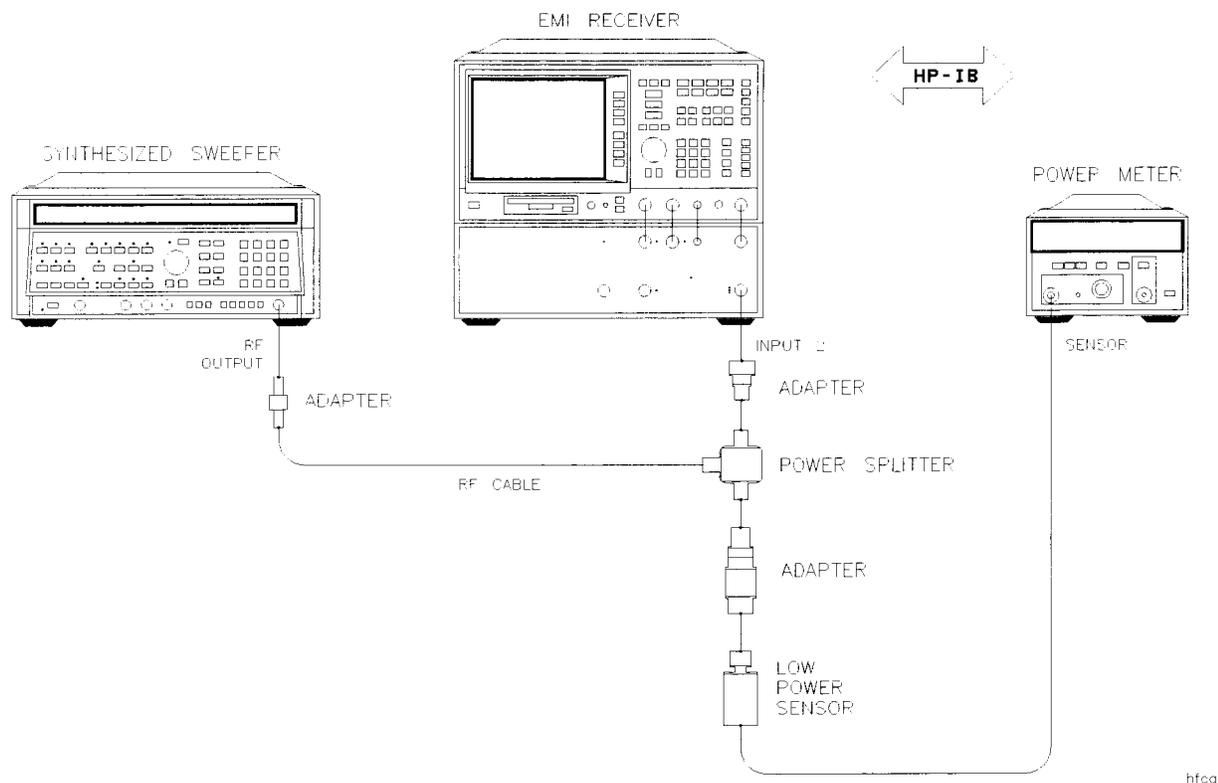

Figure 2-12 High Frequency Calibration, Input 2 Setup
- The test equipment must be connected as shown in Figure 2-12 on page 2-42.
4. Connect the equipment when the following is displayed. Refer to Figure 2-12 on page 2-42.